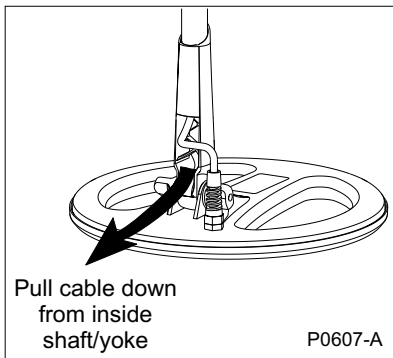

Figure 2.15 Removing cable
STEP 4 (Figure 2.15) Gently pull the coil cable from inside the yoke/ lower shaft.